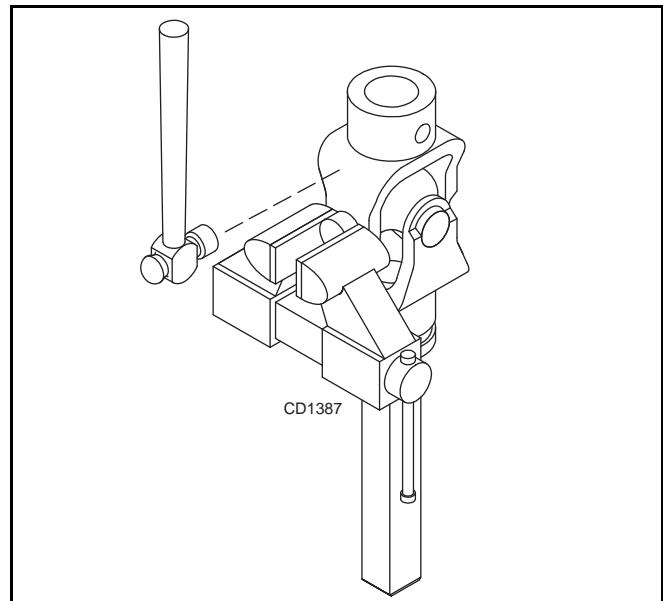

Figure 29
3. Clamp cup in vise as shown in Figure 29 and tap on yoke to completely remove cup from yoke. Repeat Step 2 & Step 3 for opposite cup.